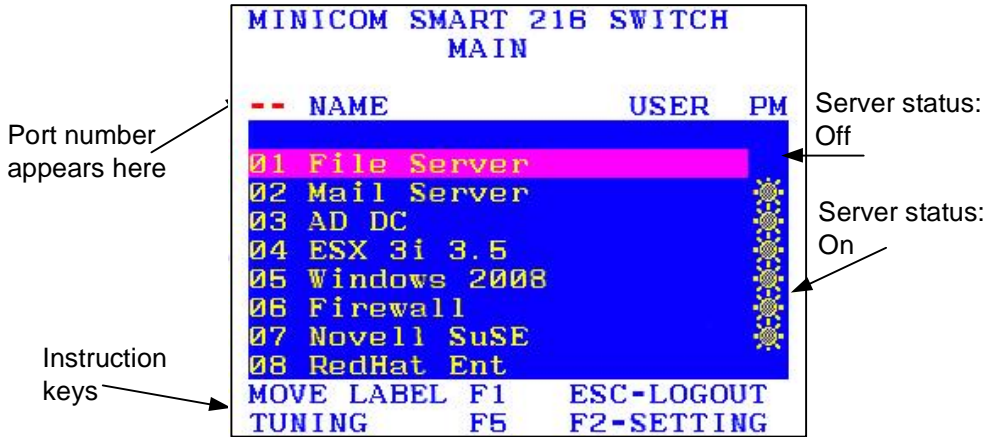

Figure 27 OSD Main window
1. From the local keyboard, press the left **Shift** key twice. The OSD Main window appears. See Figure 27.